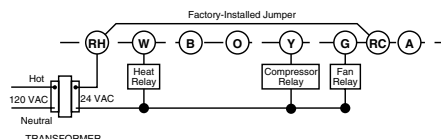
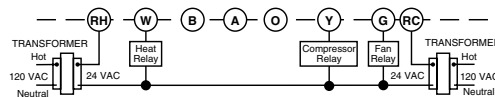

Figure 2. Typical wiring for single transformer heating/cooling system
Figure 3. Typical wiring for two-transformer heating/cooling system
- If your system has more than two wires:** Use the cross reference chart to determine correct wire connections. If you have a four-wire heat/cool system leave the factory installed jumper between RC and RH attached (see Fig 2.). If your system has five wires remove the factory installed jumper between RC and RH (see Fig 3.).